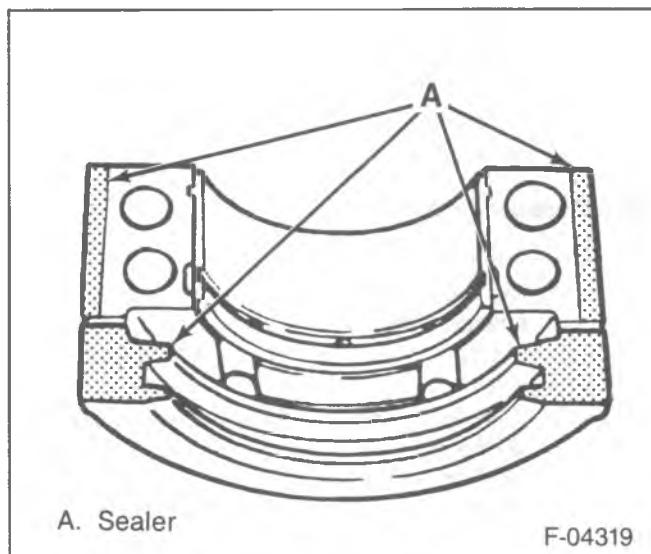

Figure 29—Applying Sealer to Rear Main Bearing Cap
- 5. Thin coat of anaerobic sealant (GM Part No. 1052756 or equivalent) to the rear of the block mating surface or corresponding surface of the rear main bearing cap only (figure 29).